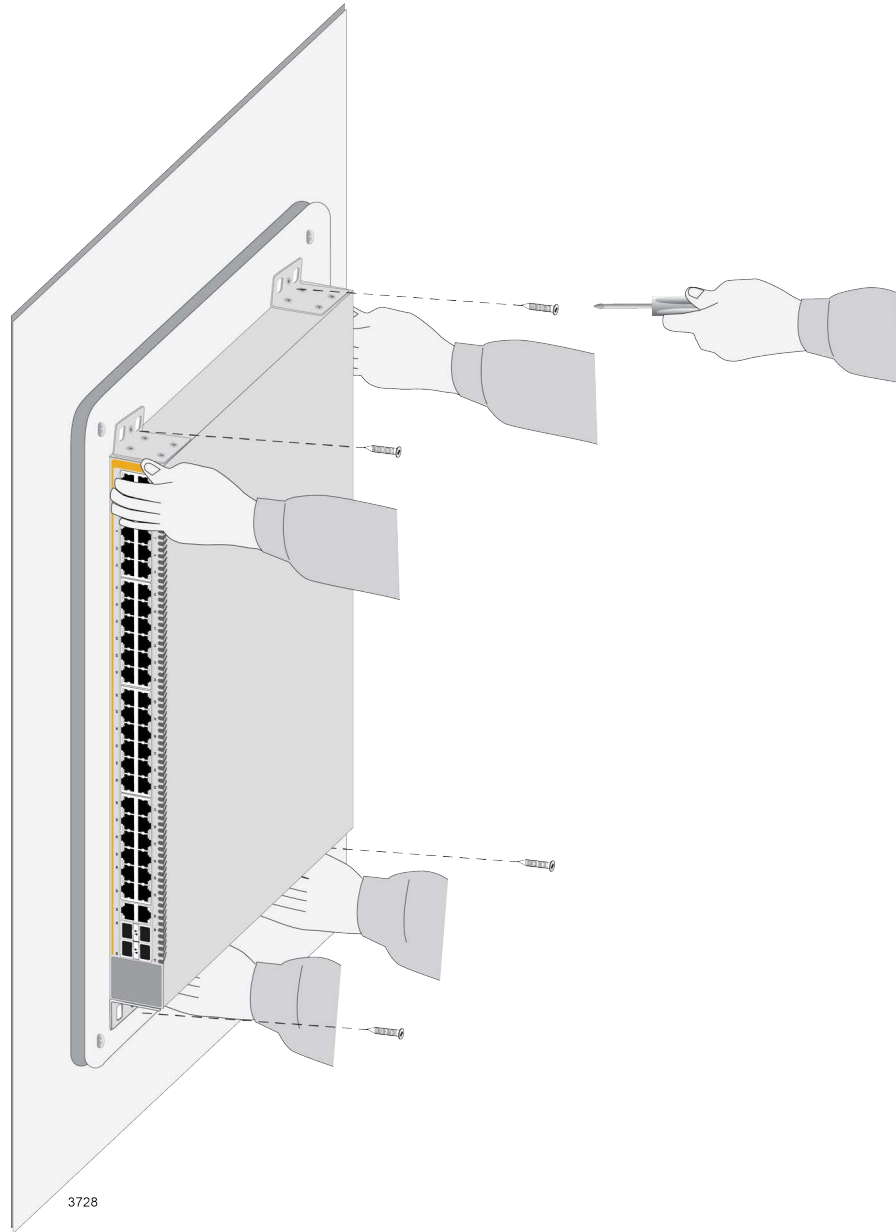

Figure 52. Securing the Switch to the Plywood Base
3. After attaching the brackets to the side of the switch, have two people hold the switch on the plywood base on the wall while you secure it with the four provided screws. Refer to Figure 52 on page 112.